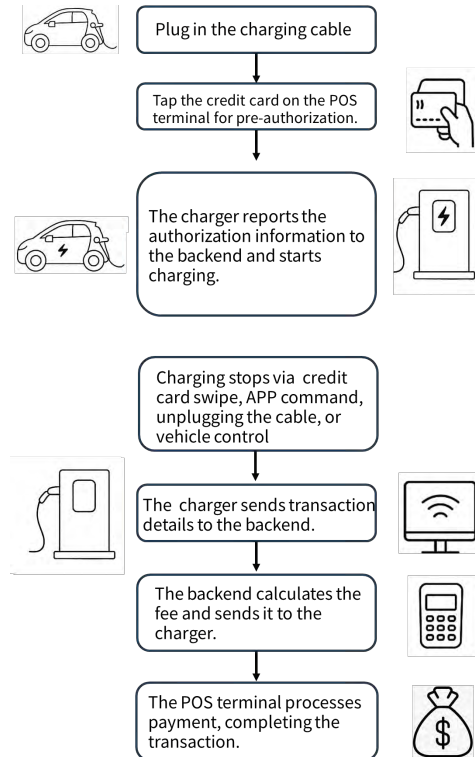

Fig. 5-10 Payment process
- Pass the prepared power cable through the input cable interface, and connect each wire to the corresponding input terminals labeled LA, LB, and GND as shown in Fig. 5-10.
Fig. 5-10 wiring